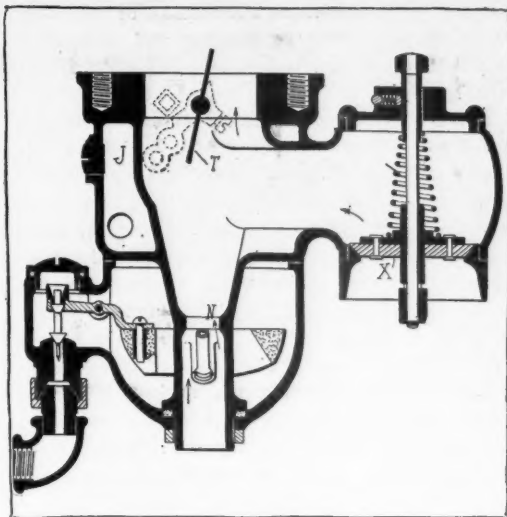

FIG. 20—MODEL L SCHEBLER
N. The model E. Schebler differs from this in that it has a central air draft, or passage A, leading direct past the nozzle, as well as an auxiliary passage, guarded by the valve X. The only gasoline adjustment in this is that by setting the needle valve in the nozzle. The model L Schebler, Fig. 20, has been brought out specially for racing purposes and is of different design in that it has a connection between the throttle T and the needle valve, so that with every opening of the throttle there is a proportionate opening of the needle valve, thus assisting in regulating the flow of gasoline and proportioning it with the air. Separate adjustments are provided whereby the amount of lift of the needle valve with relation to throttle opening can be furnished for intermediate and high speeds. This carbureter also has a gasoline adjustment for low speed in the needle valve.